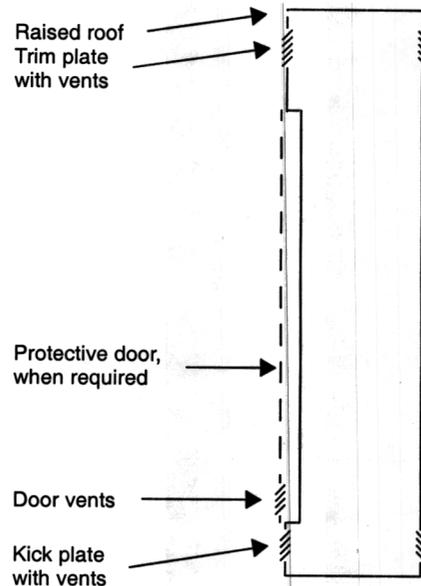

Fig. 1 Self-ventilated design of the cubicle
- 5) Self-ventilated design according to Fig. 1
Table 2 is applicable for convection in sealed cubicles or self-ventilated cubicles with designs according to Fig. 1. When the power losses are approximately evenly distributed in the equipment frames, the temperature increase will not exceed 15 °C.